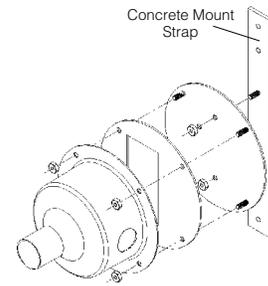

Fig. 3
1. Attach the concrete mount strap to the cover plate as shown in Fig. 3.